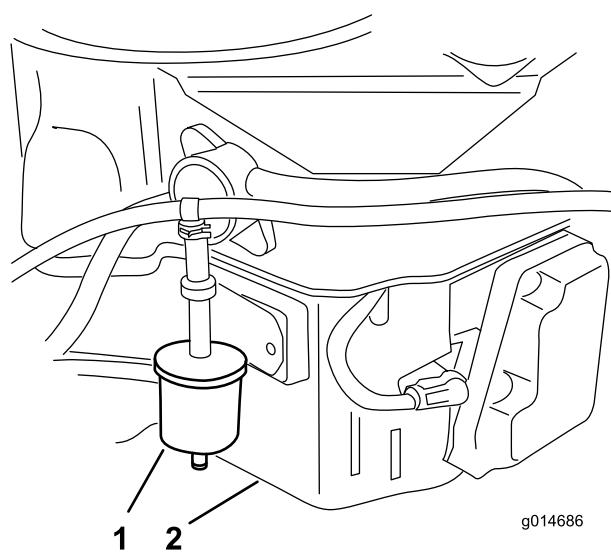

Figure 35
3. Remove the existing fuel vent filter (Figure 35).